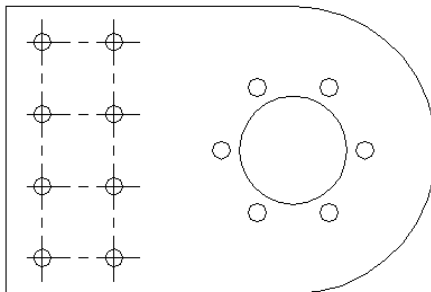

**Figure 10-7:** The completed mounting bracket.
8. Click Preview. You should see a total of four horizontal lines, as shown in Figure 10-7. Click Accept in the small dialog box that appears. (If you don't see the four lines, click Modify and recheck the settings in the Array dialog box.)
13. Click Preview to preview the array. If the circles look like Figure 10-7, click Accept. Otherwise, click Modify and check your settings. After you're done, the command arrays the holes to fit the centerlines.
19. Click Preview to see the array. It should look like Figure 10-7. If it does, click Accept. Otherwise, click Modify and recheck the settings in the Array dialog box. AutoCAD or AutoCAD LT completes the mounting bracket.
20. Save your drawing. It should look like Figure 10-7.